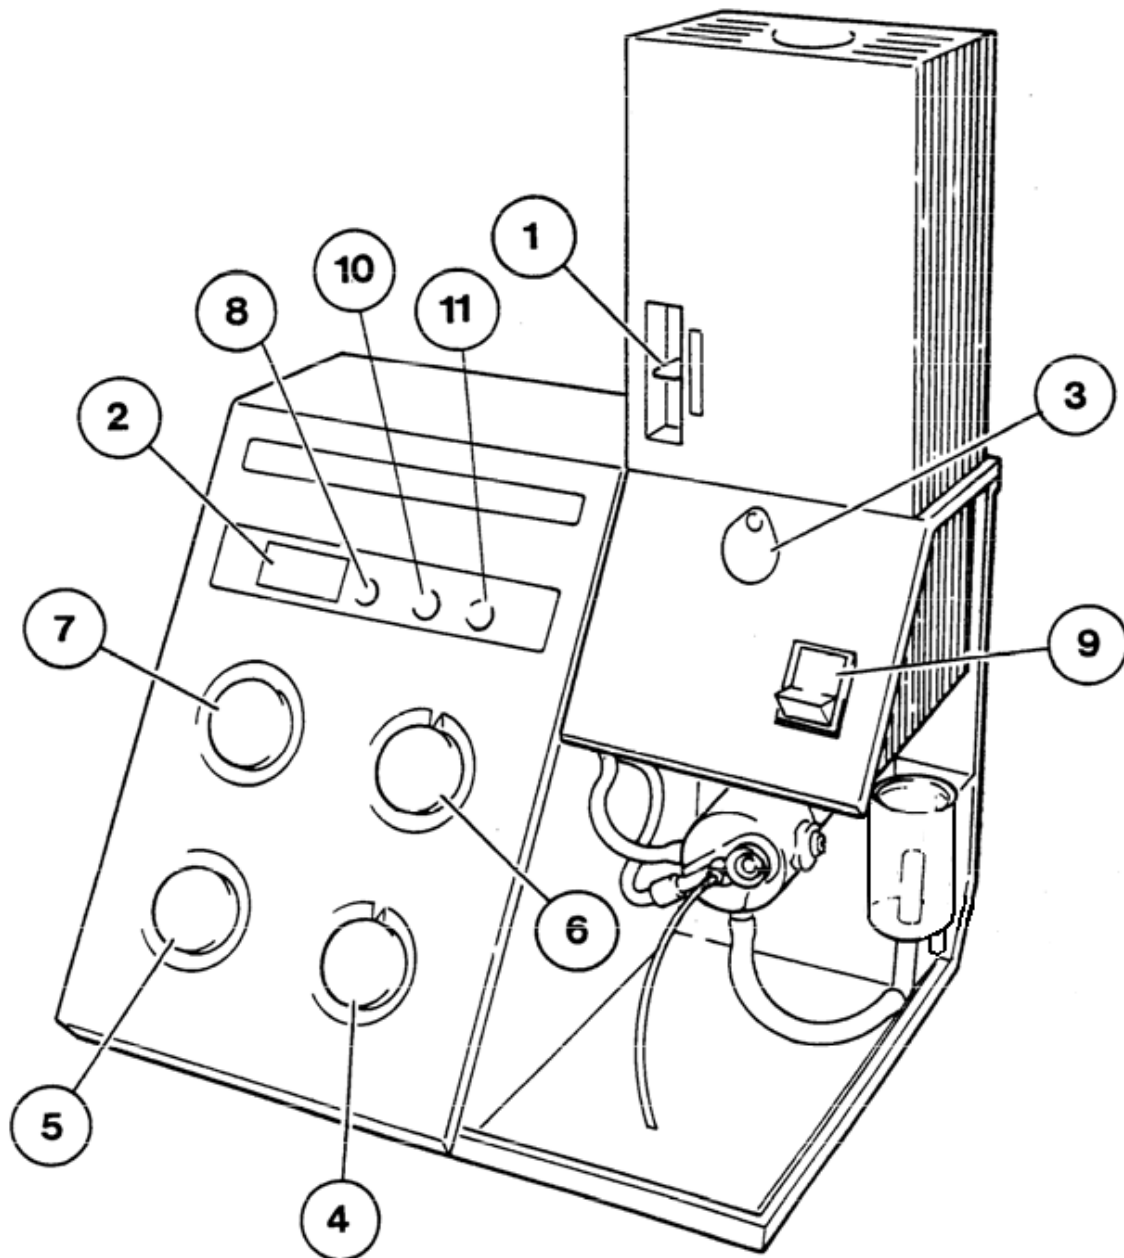

Figure 4.1 Front Panel
4.1 Front Panel Controls and Indicators (See Fig 4.1).